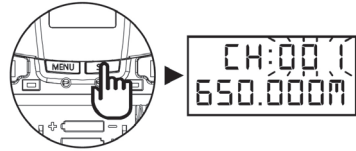

Figure 9
2. Press and hold the SET button for 3 seconds, then the upper-right channel number will flash to allow changes to be made (Fig 9).